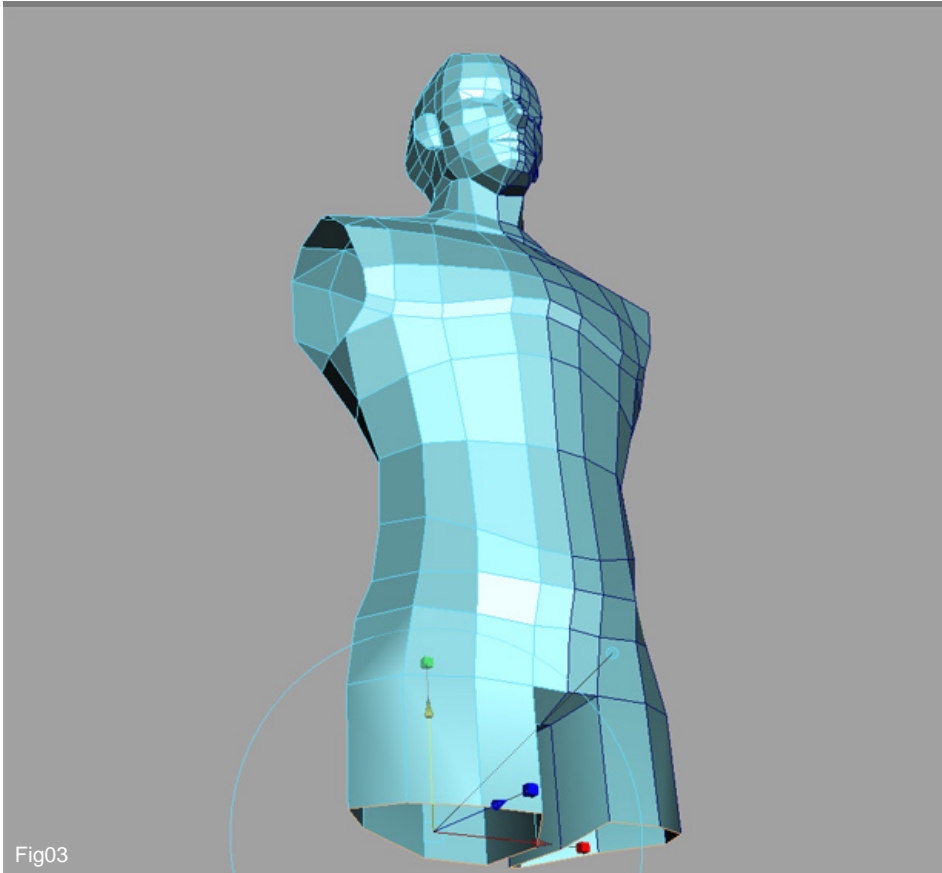

Fig03
3. Extrude the edge downward using “Extrude edge” tool and rearrange the vertices to have a nice shape for the legs (Fig03).